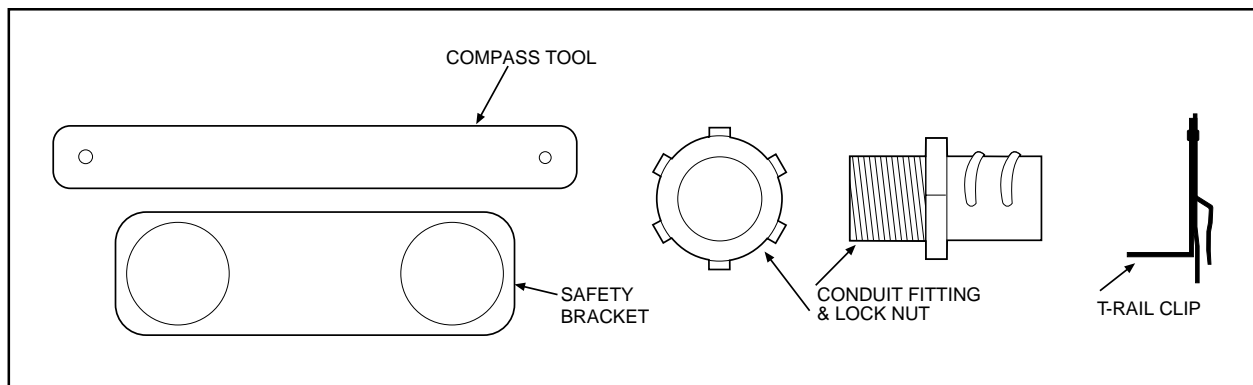

Figure 1. Back Box Parts
- 1 Parts bag (refer to Figure 1)